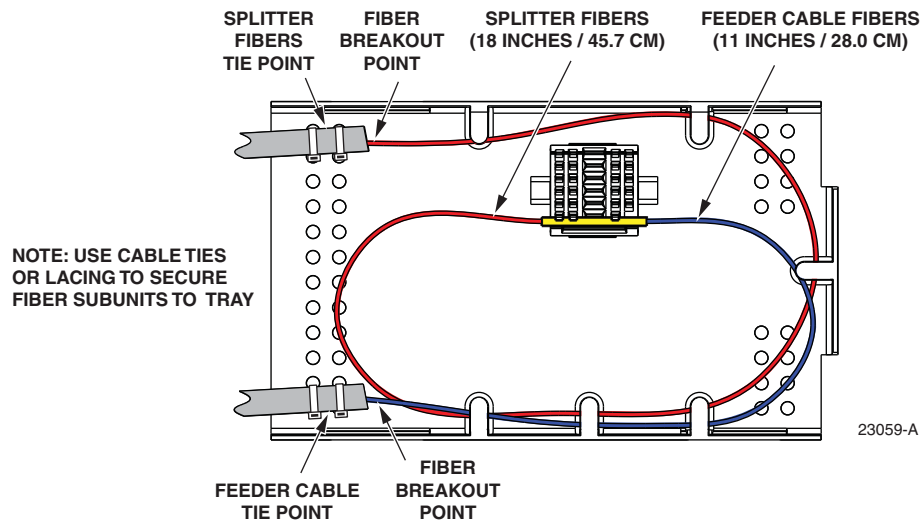

Figure 23. Stranded Fiber Splice Tray - Feeder Cable Splicing
10. Splice the feeder cable fibers to the appropriate splitter fibers as specified by local policies and procedures. Adjust and route the fibers within the splice tray as shown in Figure 23. Refer to Table 3 for the splitter fiber designations.